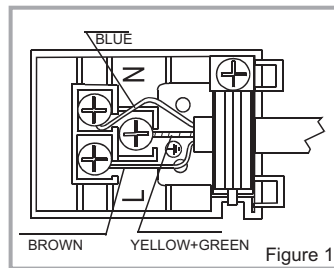

Figure 1
- The earthing cable must be connected via the screw with the earthing mark. Supply cable connection must be as shown in Figure 1. If there is no earthed outlet conforming to regulations in the installation environment, call the Authorized Service immediately.